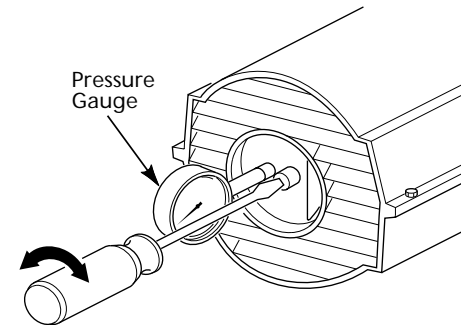

Figure 16 - Adjusting Pump Pressure
2. Install accessory pressure gauge (part number HA1180) (see Figure 16).